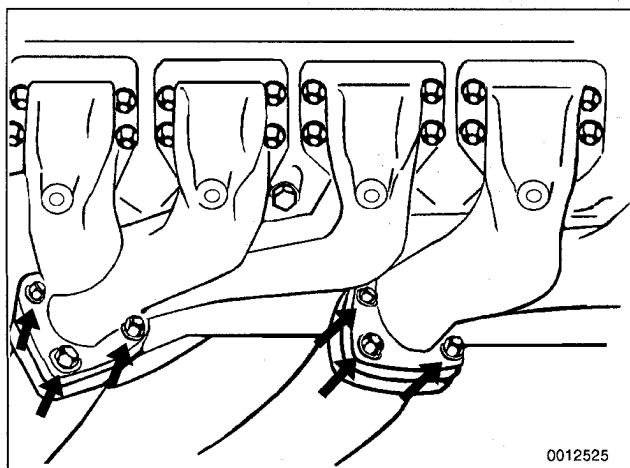

Fig. 16. Front exhaust pipe to exhaust manifolds mounting nuts on 6-cylinder engine (arrows).
24. Remove front exhaust pipe from exhaust manifold. See Fig. 16.